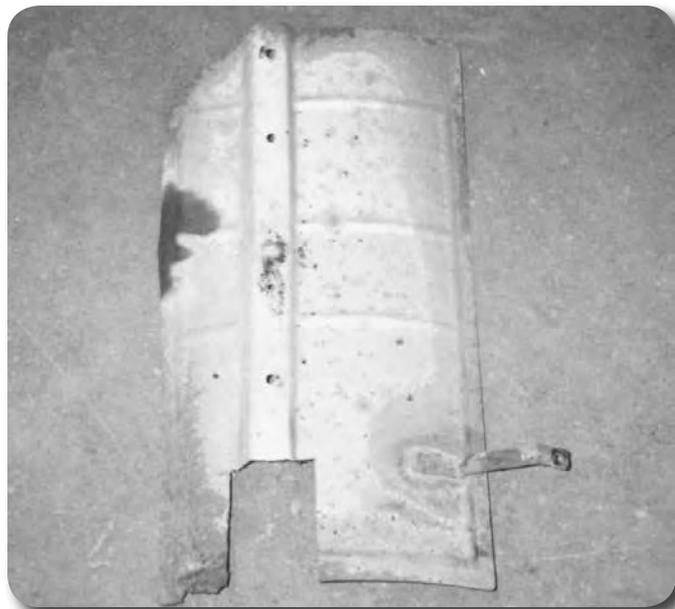

Figure 9
42. Remove heat shield and exhaust hanger. Trim heat shield and reinstall Figure 9.